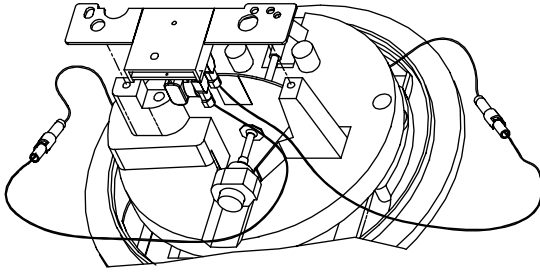

Figure 30. Attaching the WOPI
7. Position the WOPI on the meter base so that the mounting bracket holes are aligned with the face plate screw holes. Ensure none of the wires are touching the meter disk or shaft. You'll use the face plate screws described in step 8 below to attach the WOPI. See Figure 30.